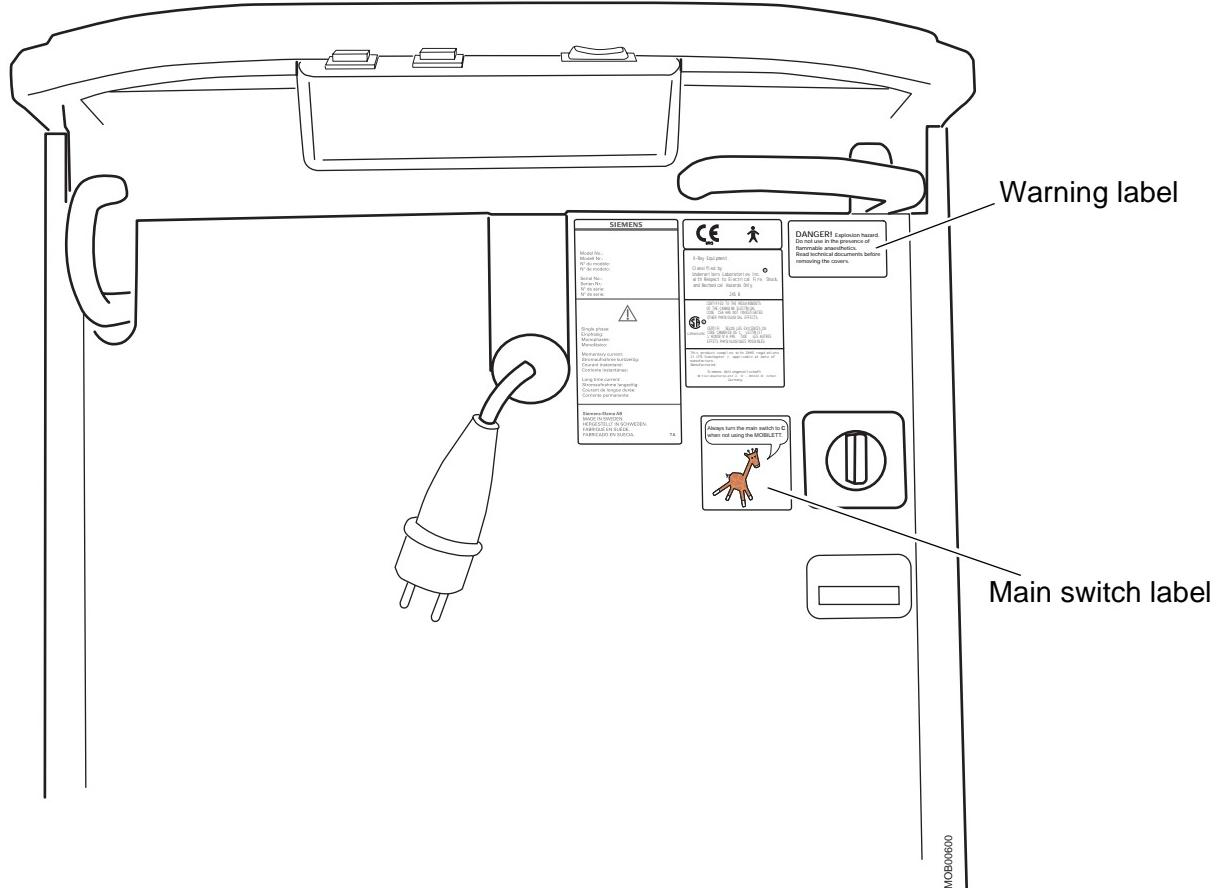

Fig. 3
**The following labels come in different languages. Pick the proper ones and paste them according to Fig. 3.**
Mount the main switch label 65 90 827 next to the mains switch as shown in Fig. 3. The main switch label comes in different languages.
Then mount the other warning label 65 84 606 as shown in Fig. 3.